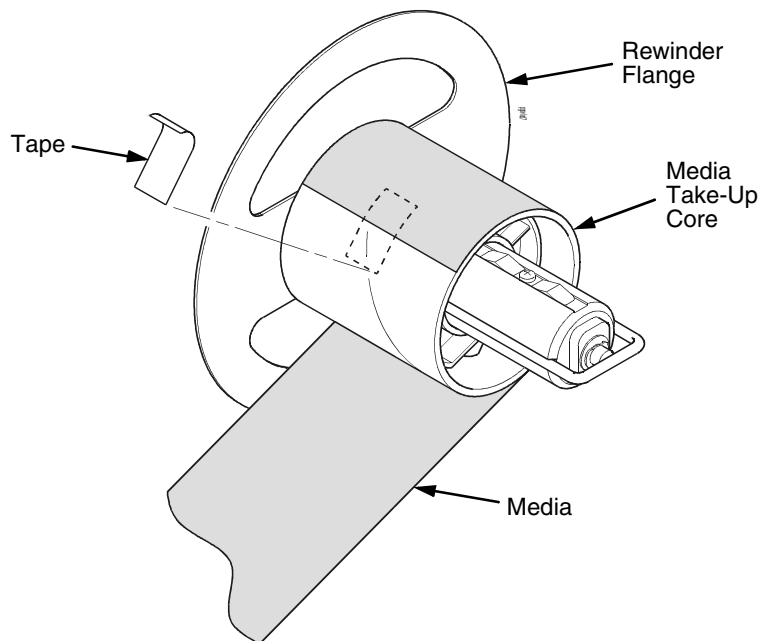

Figure 19. Securing Media on the Media Take-Up Core
4. Wrap the leading edge of the media around the media take-up core. See Figure 19.